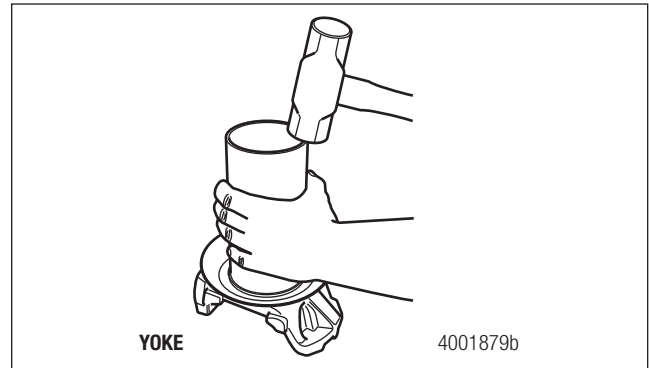
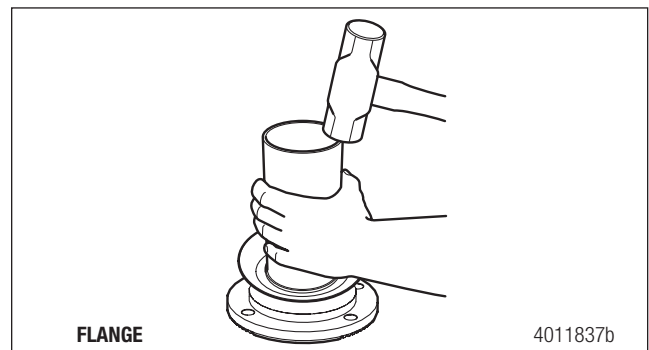

Figure 10.18
Figure 10.19
4. If a deflector is required on the yoke or flange, use a section of tubing and a brass hammer to press the deflector onto the end yoke or flange. Use of the tubing will help avoid damage to the deflector. Figure 10.18 and Figure 10.19.